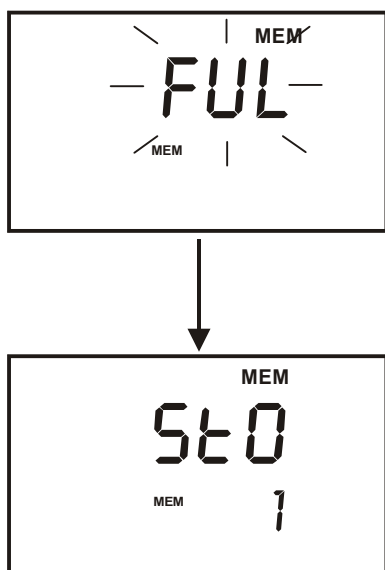

Figure 20: Memory full
3. If the memory is full, the display will flash “MEM – FUL” momentarily (Figure 20). The first value stored will be erased to create space for the new value.